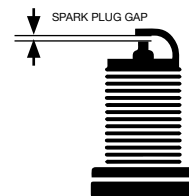

Figure 21
- Spark plug gap (the acceptable limit of 0.027–0.032 in. [0.70 – 0.80 mm]) (see Figure 21).